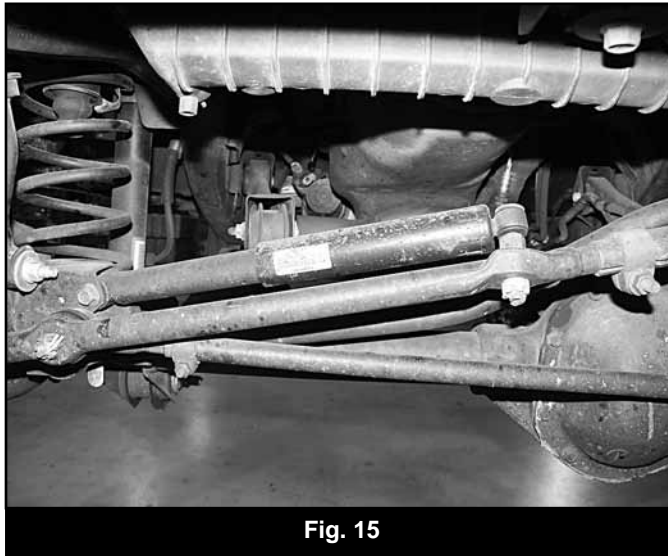

Fig. 15
35. Disconnect the steering stabilizer from the axle and retain hardware. If replacing, remove the steering stabilizer from the drag link by removing the nut and dislodging the tapered stud with a pickle fork (Fig 15).